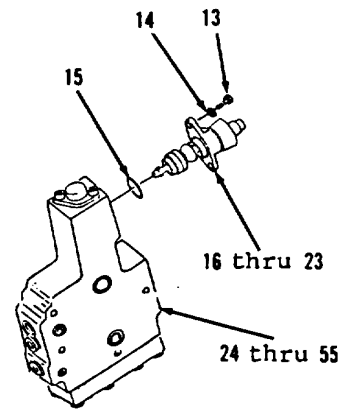
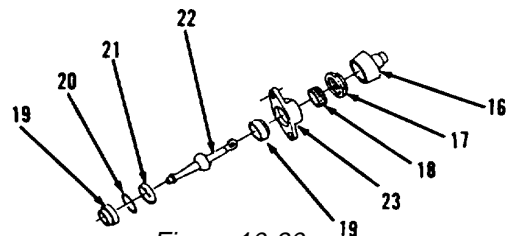

Figure 10-79.
Figure 10-80.
5. Separate manifolds (7 and 8) and items 13 thru 55 as an assembly.
6. Remove and discard six preformed packings (9) and preformed packings (10 thru 12).
7. Remove two bolts (13) and washers (14, Figure 10-79).
8. Separate items 16 thru 23 as an assembly from items 24 thru 55 as an assembly.
9. Remove and discard preformed packing (15).
10. Remove boot (16, Figure 10-80).
11. Remove nut (17) and screw (18).
12. Using suitable driver and press, remove two bearings (19), preformed packing (20), ring (21) and lever (22) from housing (23). Do not strike lever (22) to drive two bearings (19) from housing (23). Separate and discard preformed packing (20).